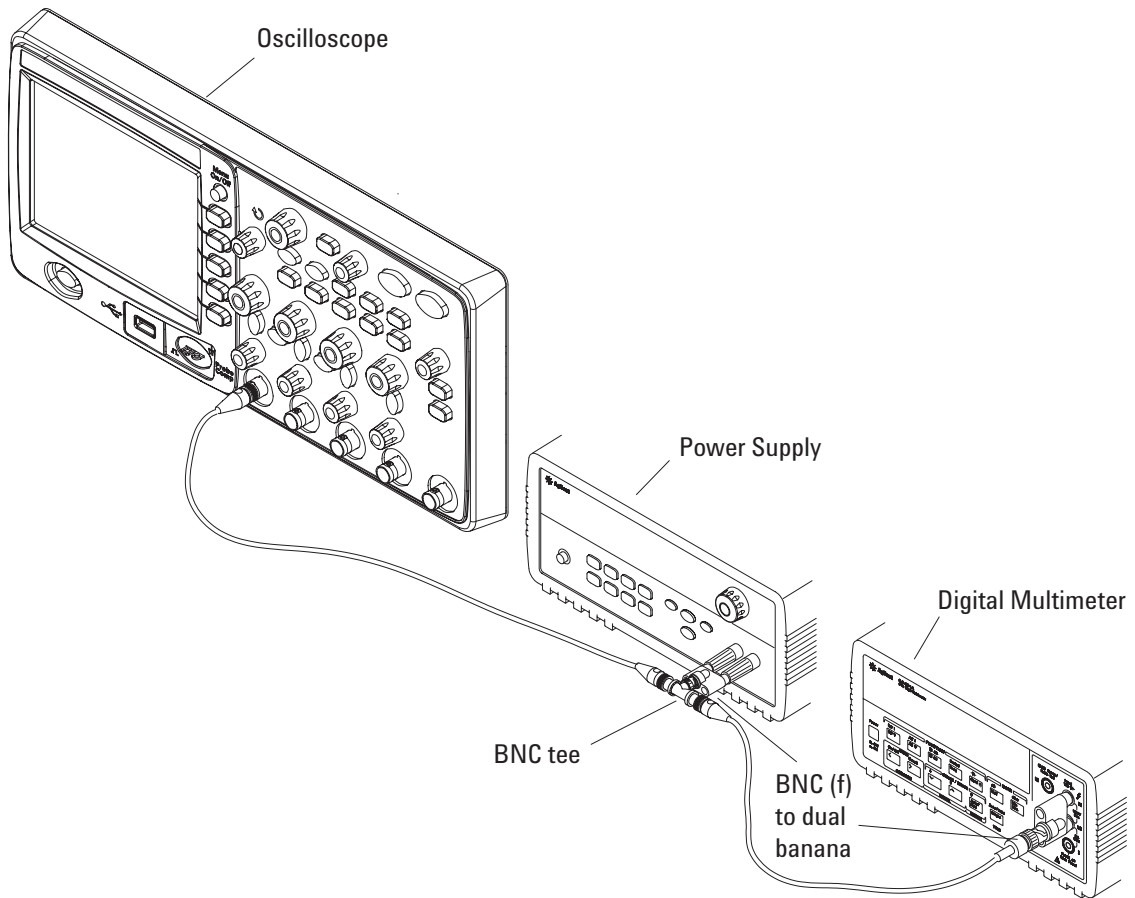

Figure 2 Connecting Equipment for DC Gain Accuracy Test
- Figure 2. Connecting Equipment for DC Gain Accuracy Test 18
- 9 Connect the equipment as shown in Figure 2.